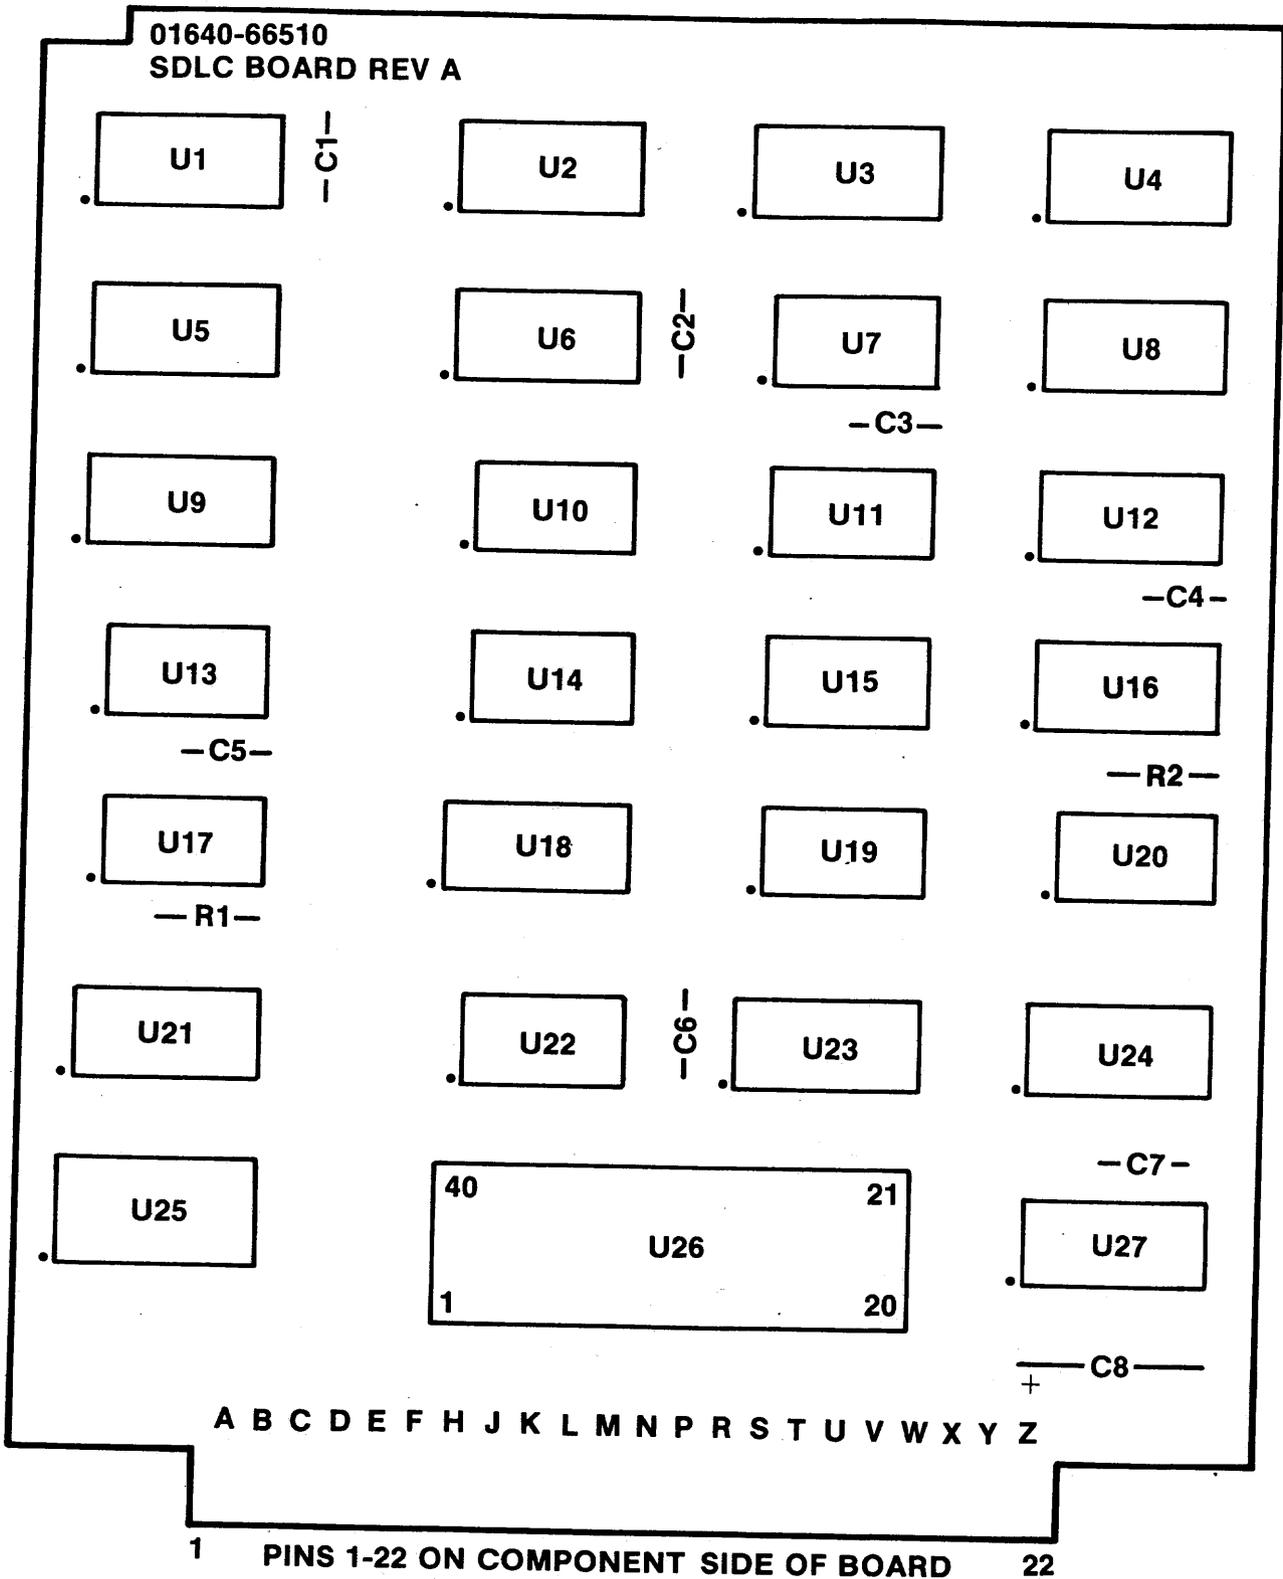

Figure 4. SDLC Board A10 Component Locations.
22. Table 1 lists replaceable parts for Model 10282A. Component locations for the SDLC printed circuit board A10 are shown in figure 4. To order a part from Hewlett-Packard, address the order to the nearest HP Sales/Service Office. Include the model number, reference designation for the part, and the HP part number. If a part is not listed, provide a complete description of the part, including function and location.